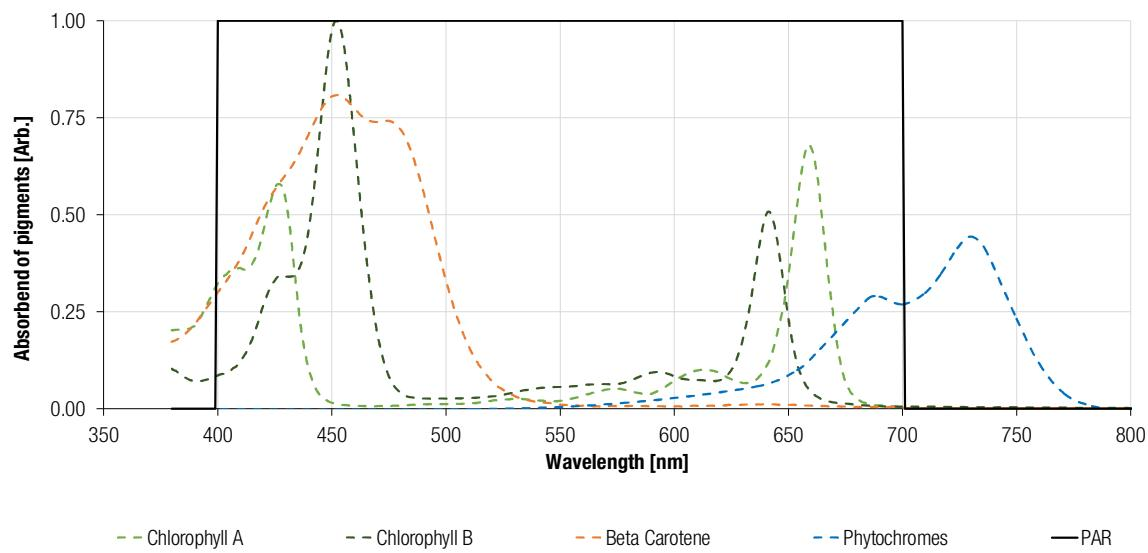

Figure 2: Characteristic absorption spectra of different pigments used for photosynthesis [1]
- **Photosynthetically active radiation (PAR, ~400 nm - ~700 nm)** – this is the conventionally used range of frequencies of light that is required by plants to perform photosynthesis (Figure 2). This number can sometimes be misleading as all wavelengths are given equal importance for photosynthesis although as we have seen above, red and blue are the main drivers of photosynthesis. This means the wavelengths of a green LED may fall within the PAR range but will have a very limited effect on plant growth.